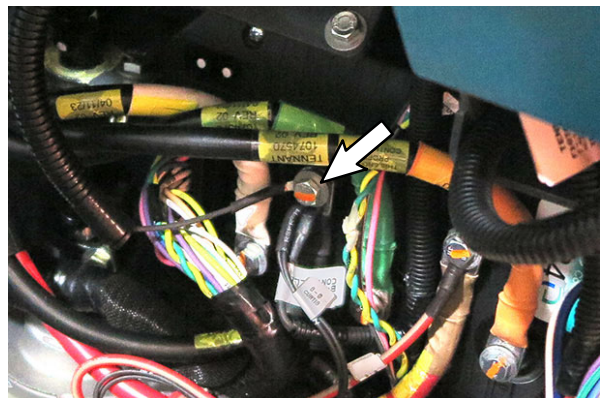
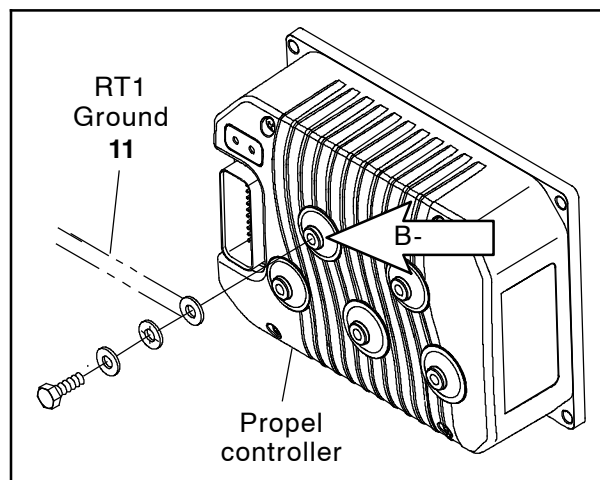

FIG. 19
FIG. 20
17. Remove the hex screw from propel controller B- terminal, place the blue spotlight harness (11) RT1 lead onto the propel controller B- terminal, and reinstall the previously removed hex nut onto the propel controller B- terminal. Torque to: 4.07 Nm - 4.52 Nm (36 in. lbs. - 40 in. lbs). (Fig. 19/Fig. 20). (Fig. 19/Fig. 20)